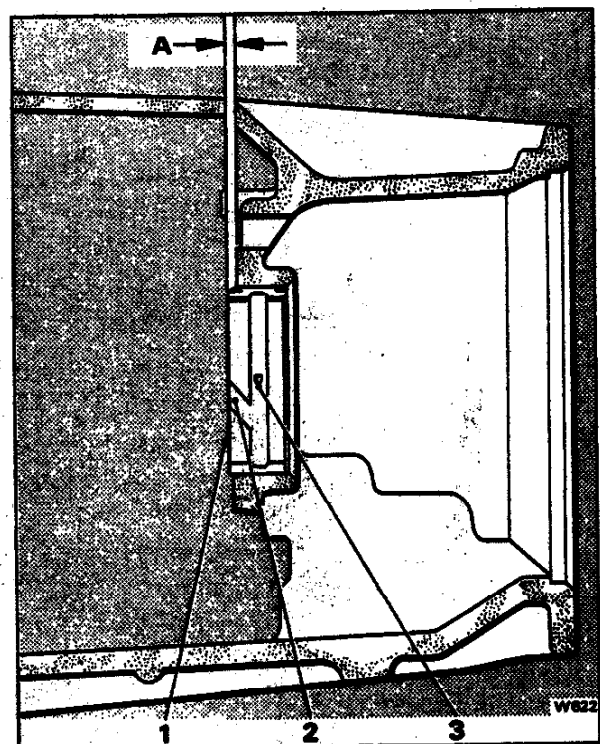

Fig. T128 Fitting a new case bush
If the case bushing is found to be worn or scored, fit new bushing (see Fig. T128).
1. Support the transmission case and using adapter (J-21465-9) on removal/fitting tool (J-21465-8), together with the drive handle (J-8092) and extension (J-21465-13), press or drive the bush into the case until between 1,02 mm. and 1,40 mm. (0,040 in. and 0,055 in.) above the selective thrust washer face (see Fig. T128).